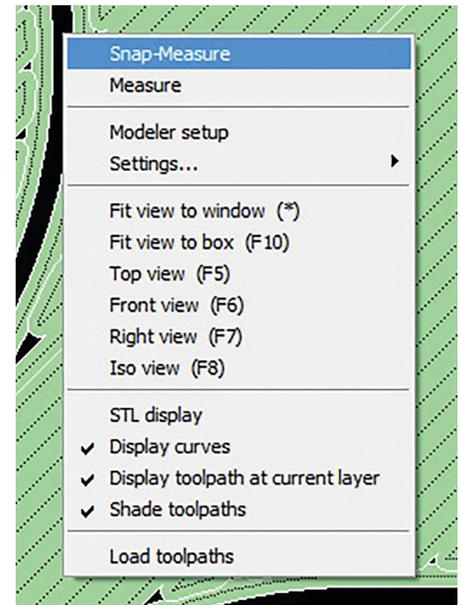

Figure 4: Snap-Measure tool.
STEP 7: Right click anywhere in the viewport and select Snap-Measure from the menu. Drag the cursor to measure the clearance between model toolpaths (Figure 4).